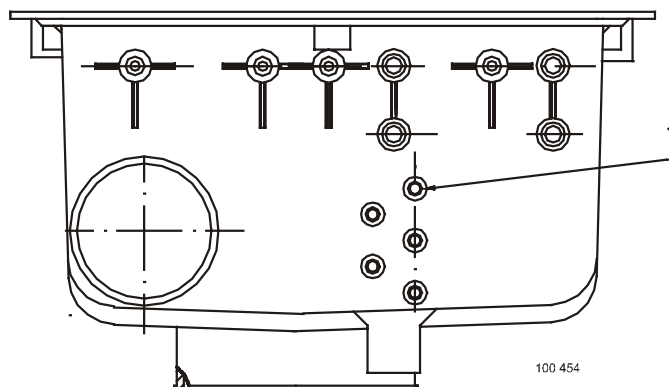

Fig. 4.7.A. Connection soap hopper
this make as many holes in the soap hopper, fig. 4.7.A, pos 1) as you have liquid soap hoses. Connect the hoses to the soap hopper by means of clamps.